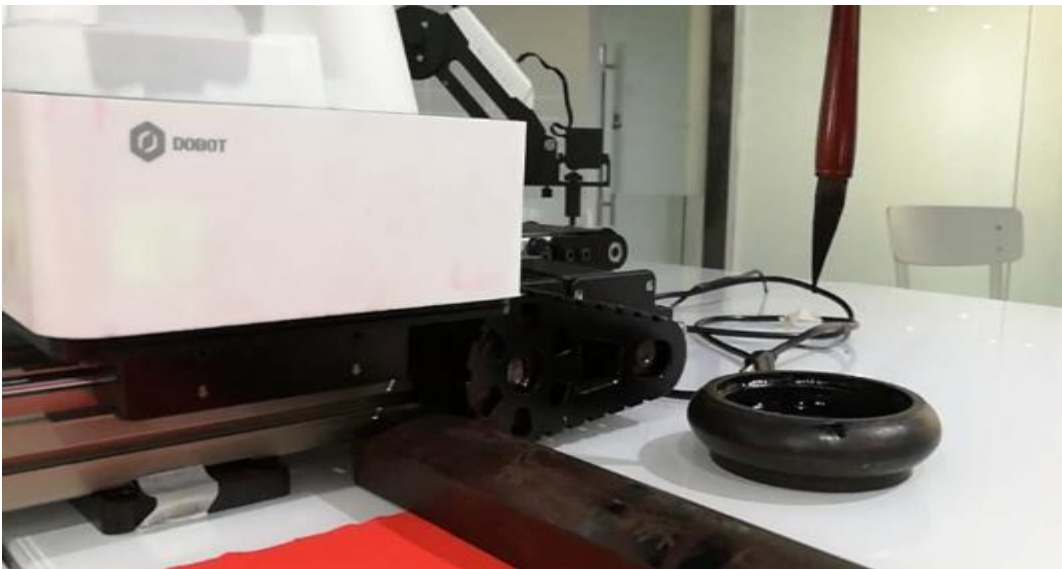

Figure 1.24 Raise the writing brush
5. Drag the Forearm to raise the writing brush up, to avoid touching the inkstone. As shown in Figure 1.24.